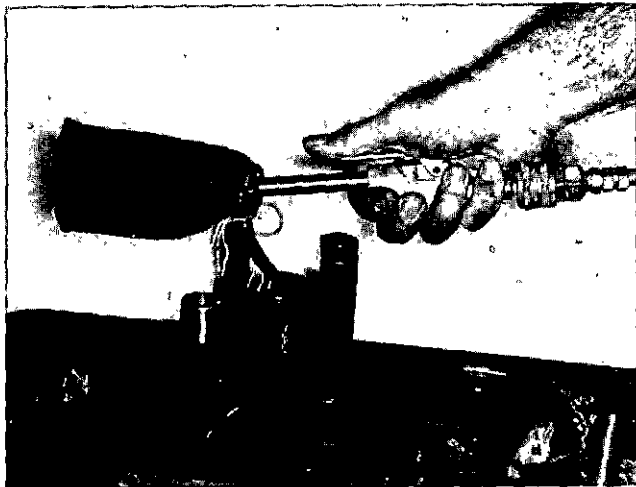

Fig. 1-34 (N101123). Remove The Chips From The Hole.
2. Put the locating pin (5) through the bushing in the bushing holder and into the hole to be repaired. Tighten the cap screw (3) that holds the bushing holder to the base plate.
3. Remove the locating pin and put the special reamer (6) into the housing.
4. Install the universal drive (8) in a 1/2 or 5/8 inch heavy duty electric drill. Put the drive on the reamer. Cut the hole until the reamer reaches the bottom of the hole.
5. Remove the reamer from the hole. Remove the chips from the hole with the special chip remover, Fig. 1-34.